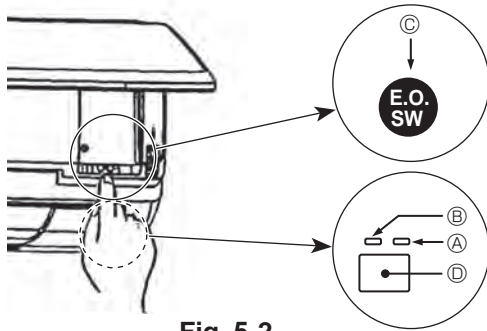

Fig. 5-2
- To stop operation, press the ⚙ button ① or the ⚙ button ② for more than 2 seconds.
[Fig. 5-2] ① DEFROST/STAND BY lamp (Orange)
② Operation lamp (Green)
③ Emergency operation switch (cooling/heating)